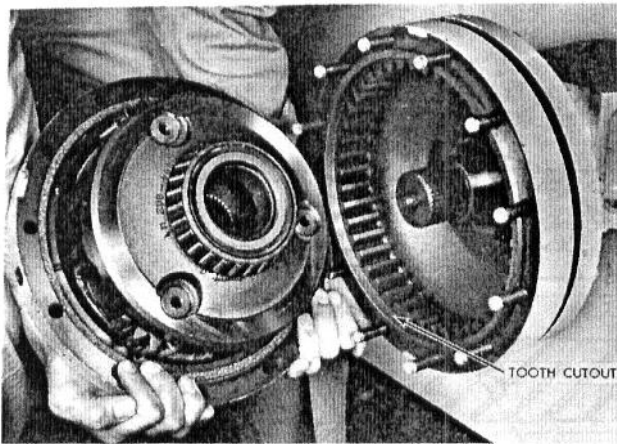

Fig. 26 - Removing Axle Planetary Assembly
3. Remove the retaining nuts and lift the planetary assembly from the axle housing as shown in Fig. 26.
1. Remove the axle planetary as described in "Axle Planetary Assembly Removal". See Fig. 26.